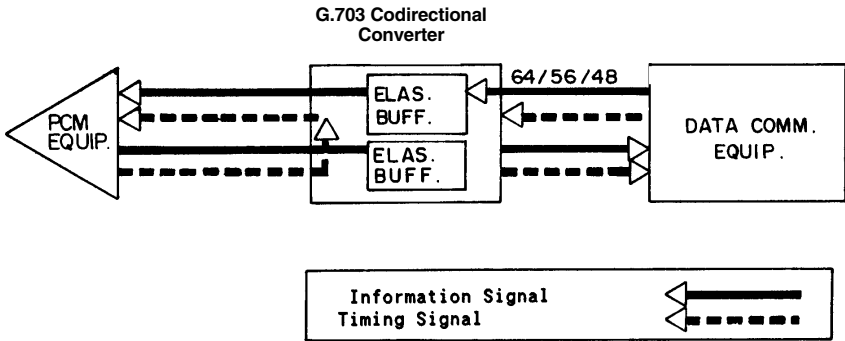
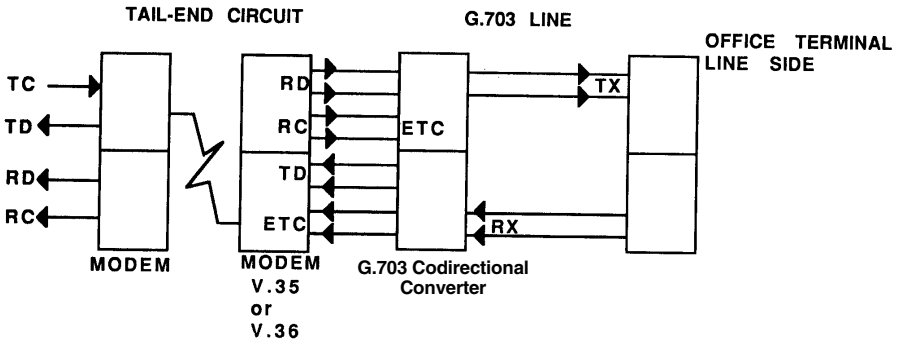

Figure 2-5. LBT-DCE Connection.
Figure 2-8. Tail Circuit Application.
- Receive Clock is an output from the Converter, while Transmit Clock is an input to the Converter from an external DCE, for connection to a tail circuit (see Figure 2-5).
Transmit clock from the external DCE source is provided for applications requiring the use of a modem in order to reach a remote DTE, as shown in Figure 2-8 (see Figures A-2, A-7, and A-10 in the **Appendix** for pinouts). Use the LBT-DCE-timing mode with the G.703 Codirectional Converter (see Figure 2-5).